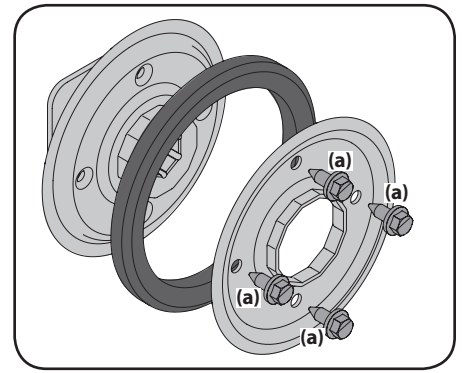

Figure 4-23
1. Remove four screws (a) which secure friction wheel's side plates together. See Figure 4-23.